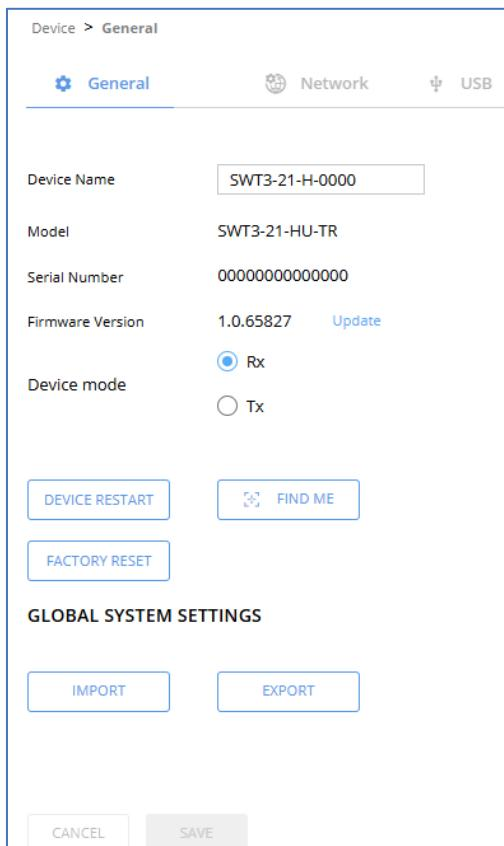

Figure 23: Device > General Page
1. Go to the **Device > General** page (Figure 23).
- Click **DEVICE RESTART** on the **Device > General** page (Figure 23).
- Click **FACTORY RESET** on the **Device > General** page (Figure 23).